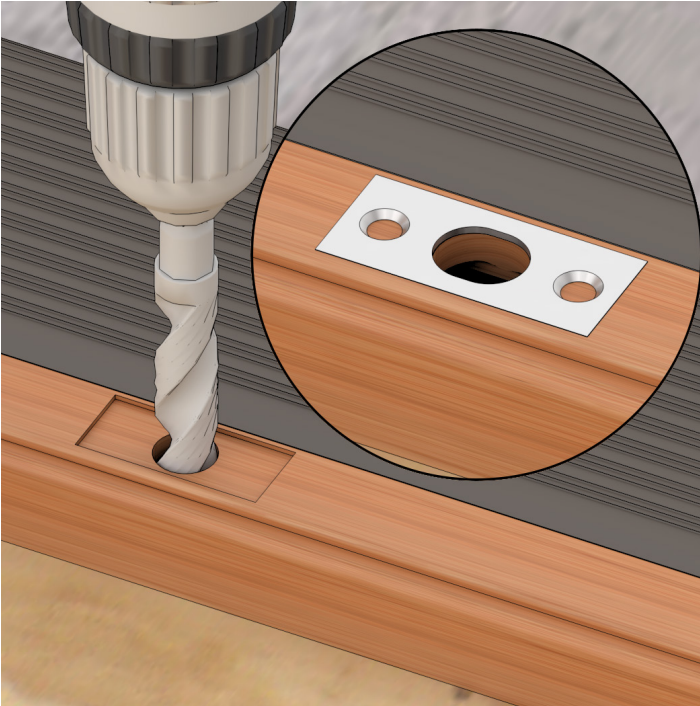

Figure 26
4. On pair doors, using the shoot bolt as a guide for center, drill a 3/4" hole in the sill. On Adjustable sill and hydro sill, Mortise strike in to wood liner. On ADA and Interlock Sills, directly apply strike to sill. See figure 26